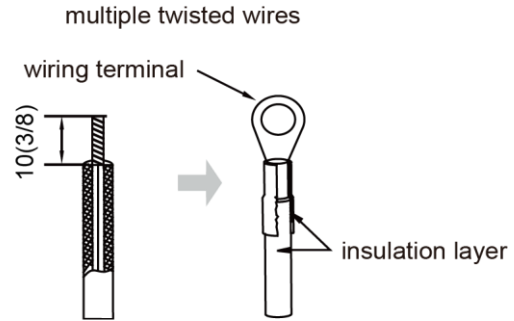

Fig 5.1.2
(2) The connection of stranded wire (as shown in fig 5.1.2)